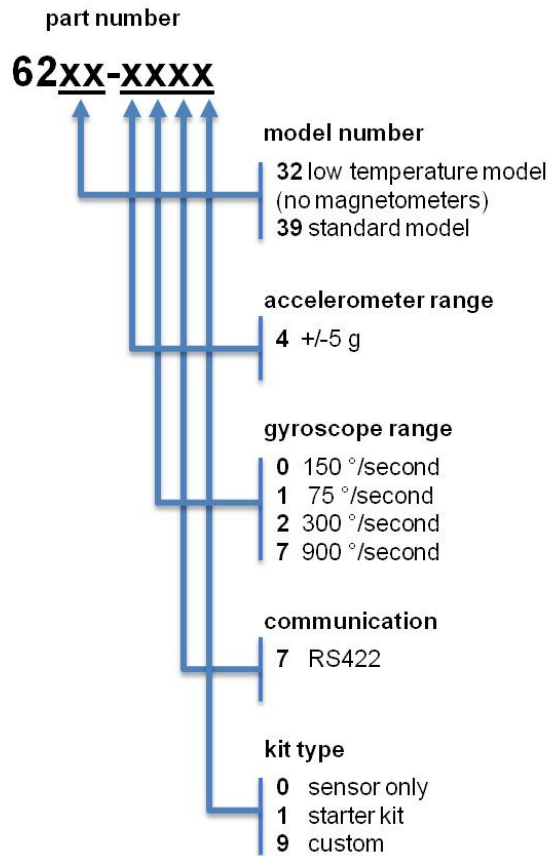

Figure 40 - Standard Part Numbers
*Table 6 - Model Numbers* describes the standard models available at the time this manual was published. Once a model is selected, the part number is further defined by desired configuration and interface options. The model determines the first four digits of the product part number; the options are indicated in the last four digits (*Figure 40 - Standard Part Numbers*).